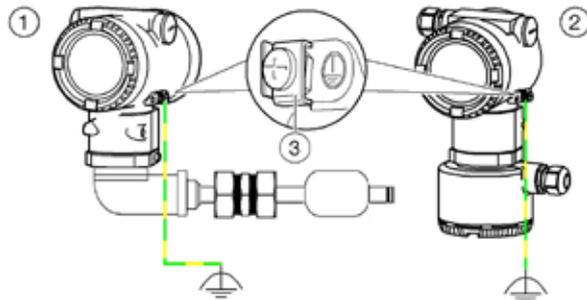

Figure 4 Ground connection on transmitter housing
A terminal is available on both the outside of the housing and in the plug for grounding (PE) the transmitter. Both terminals are electrically connected to one another (see Figure 4).